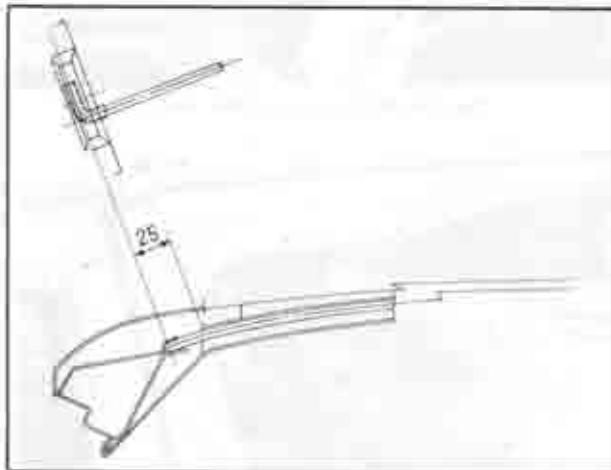

Fig. 14-93 Listing wire
3. Insert both ends of the listing wires to their proper positions in successive order beginning from the rear as shown in Fig. 14-93.